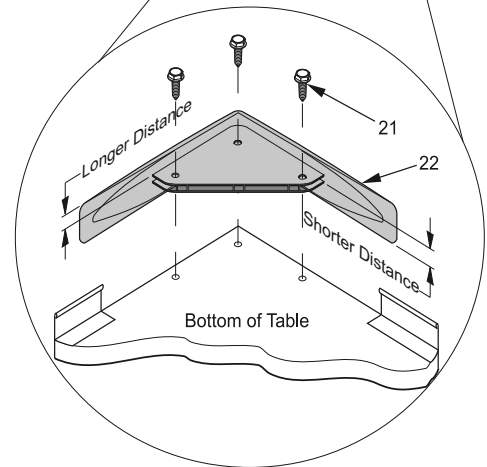

Figure 4
7. Lay Corner Caps #22 on table as shown in Figure 4. If Corner Cap sticks above table top surface of table, flip over so shorter distance is against edge. Secure to bottom of table with three screws #21.